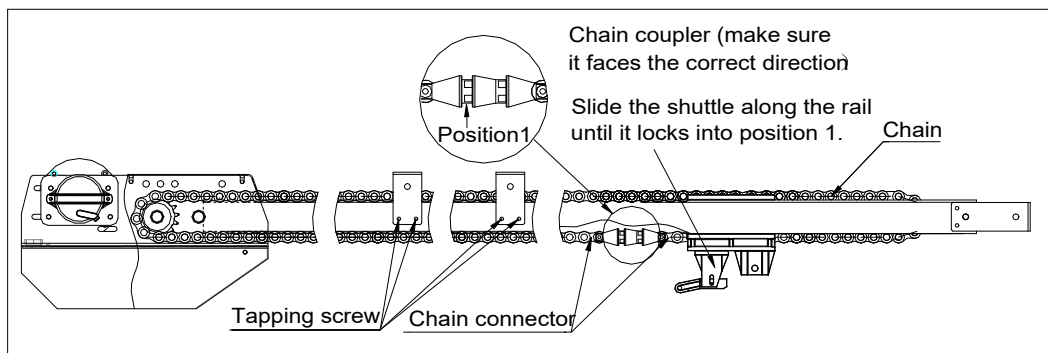

Fig.7
- Slide the shuttle along the rail until it locks into position 1. see Fig.7